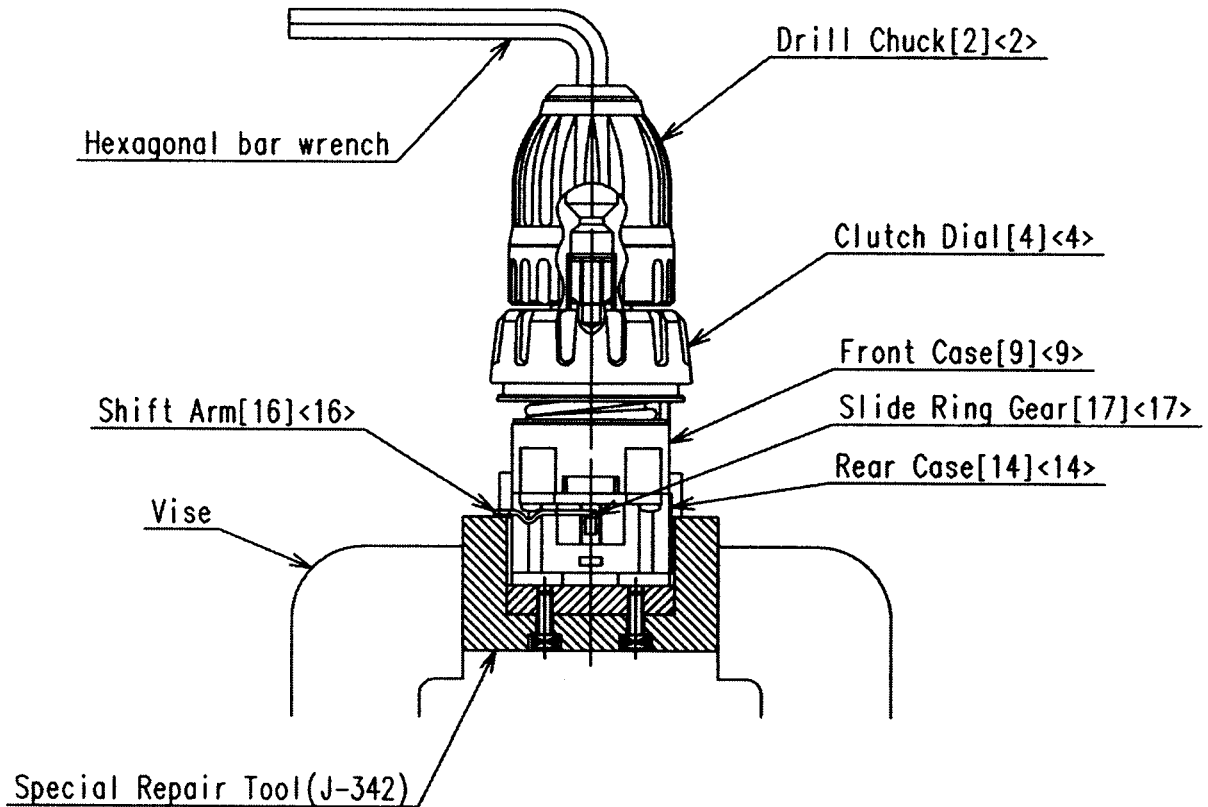

Fig. 2
##### (4) Removal of the Drill Chuck **[2]** **<2>** (See Fig. 2.)
(b) Attach the motor spacer (an accessory of the special repair tool J-342, Code No. 324-582) to the assembly of the Drill Chuck **[2]** **<2>**, Clutch Dial **[4]** **<4>**, Front Case **[9]** **<9>** and Rear Case **[14]** **<14>** then mount it in special repair tool J-342 clamped in the vise as illustrated in Fig. 2. In this operation, check that the pinion press-fitted in the special repair tool J-342 and Planet Gear (A) Set **[21]** **<21>** are engaged properly.
(e) Fit the hexagonal bar wrench M10 into the Drill Chuck **[2]** **<2>** as illustrated in Fig. 2 and remove the Drill Chuck **[2]** **<2>** by turning the hexagonal bar wrench counterclockwise.